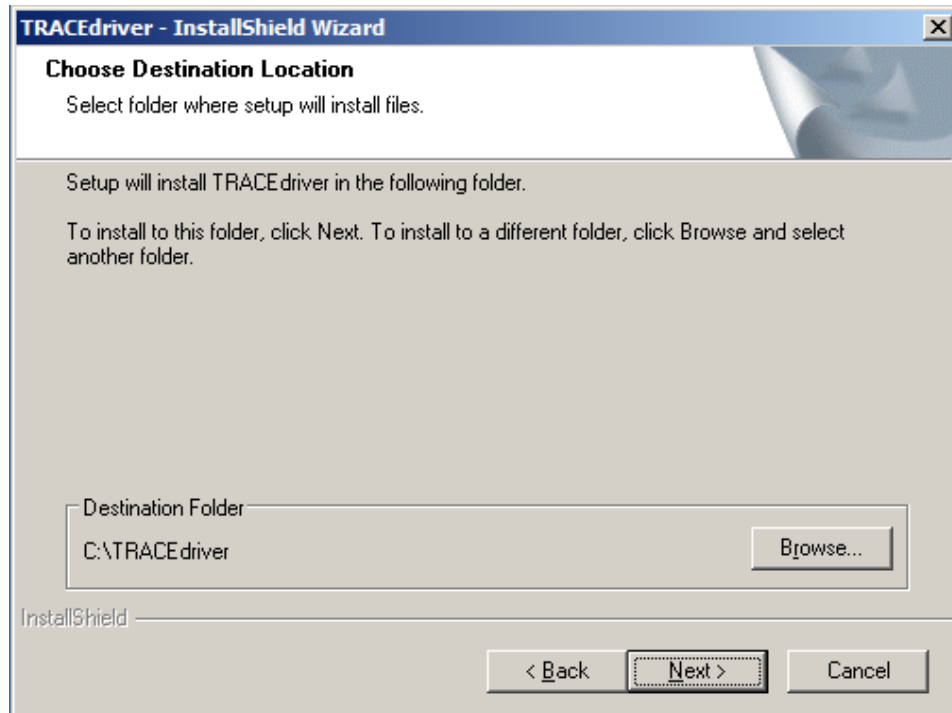

Fig 2.1.6
7. During installation, TRACEdriver installation pop up, click next to continue, see fig 2.1.6